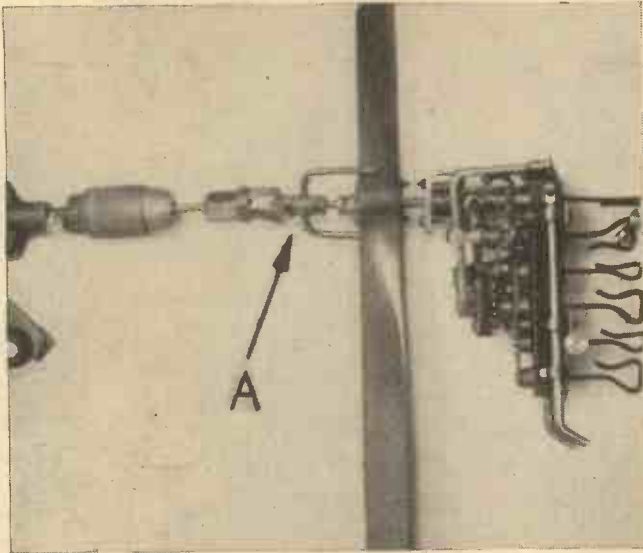

Fig. 1.—A side view of a 6-spindle unit described below.
In the annexed drawing, Fig. 1 shows the essentials of a machine about this period for selling matches and other packeted articles. The packeted articles (A) are piled one above the other in a casing (B), at the lower part of which is a slide (C), adapted to be withdrawn by a handle (C1). The slide (C) is formed at its front part with a recess or drawer to receive one of the articles (A) which are fed down by gravity. The under side of the slide (C) is formed with a notch and an inclined portion (C2) adapted to be engaged by the top end of a spring-controlled vertical sliding rod (D). To the lower end of the rod (D) is pivoted a coin pan (D1) adapted to receive a penny from the chute
Fig. 1 shows a 6-spindle unit which incorporates ball thrust bearings to each spindle, and, in addition, roller bearings to the airscrew spindle, a dog clutch for holding the motor when wound up, and an automatic brake for stopping the motor as soon as the machine lands or hits an obstacle.